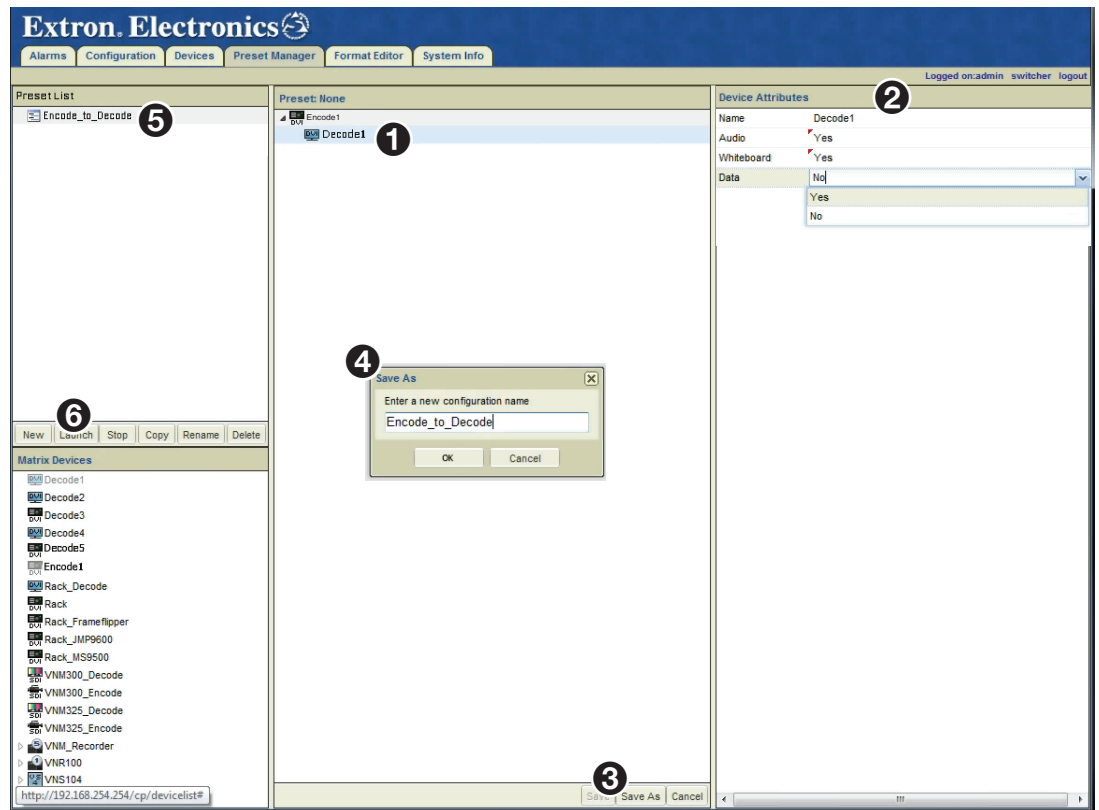

Figure 98. Save a Preset
1. Click on the decoder device in the **Preset** panel (see figure 98, 1) to populate the device attributes (2).
2. Configure the attributes of the decoder (2) as needed (see Device Attributes on page 98).